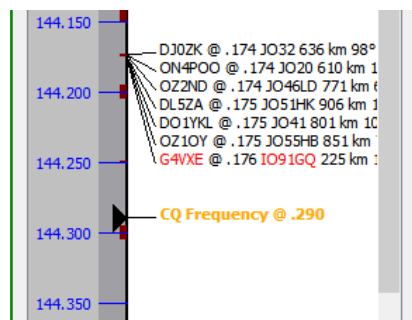

Figure 127 – Run frequency marker
- If operating in Run mode, the current Run frequency is marked on the display¹³⁵ as '**CQ Frequency**', with the fractional frequency appended (see Figure 127); the marker changes colour if the rig moves off the run frequency.